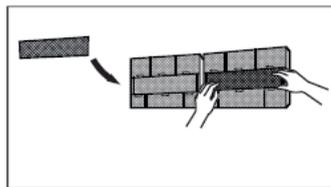

fig. 17 -
4. Remove the air purifier filter on the back of the main filter ("fig. 17 -") and clean it with a vacuum cleaner